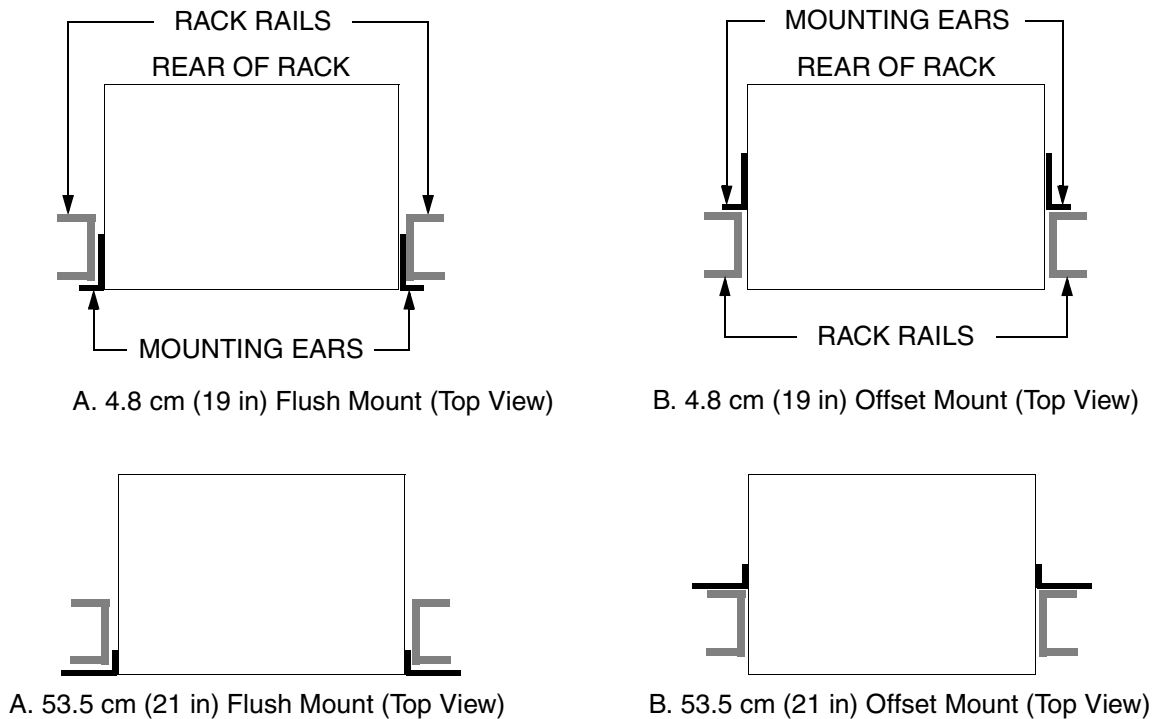

Figure 2. Rack Mounting Positions
1. Position the mounting ears on the master and expansion shelf assemblies for mounting as appropriate (Figure 2).